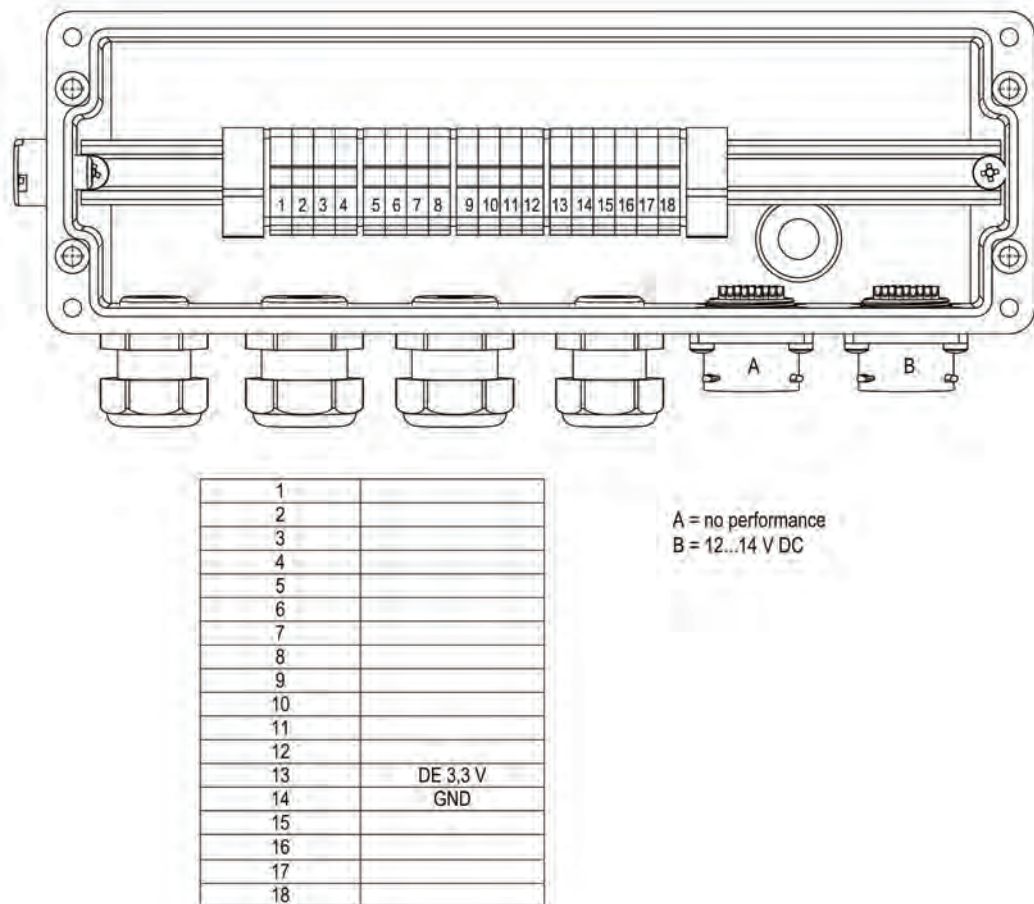

Fig. 26-2 Terminal wiring Connector Box
4. Connect the sensors in the Connector Box according to the terminal wiring plan (Fig. 26-2).